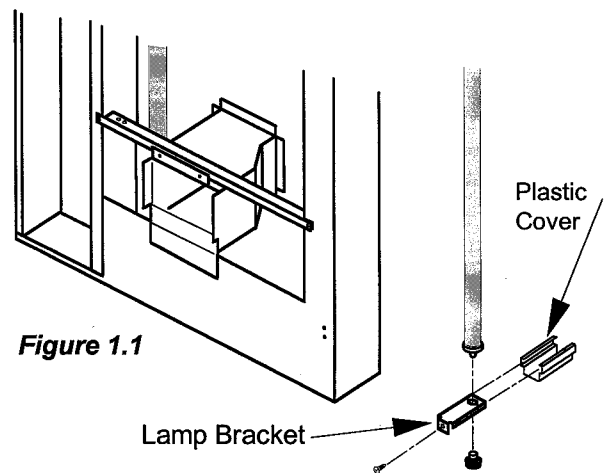

Figure 1.1
- B. Remove both plastic covers attached to bottom lamp brackets and discard. (See Figure 1.1)